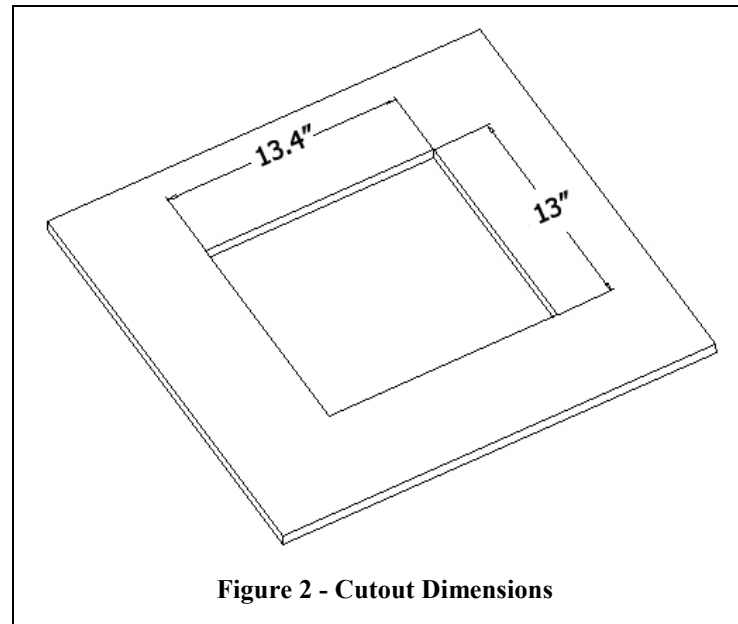

Figure 2 - Cutout Dimensions
Step 2 – Place the *enclosure assembly* on the work surface. Remove one of the 1" trade size hole cover on the side of the enclosure and install the 1" trade size conduit connector (the side on which the trade size cable clamp is to be installed will be determined by the location the enclosure is to be installed and direction from which conduit will be brought into the enclosure – ref. Figure 2).